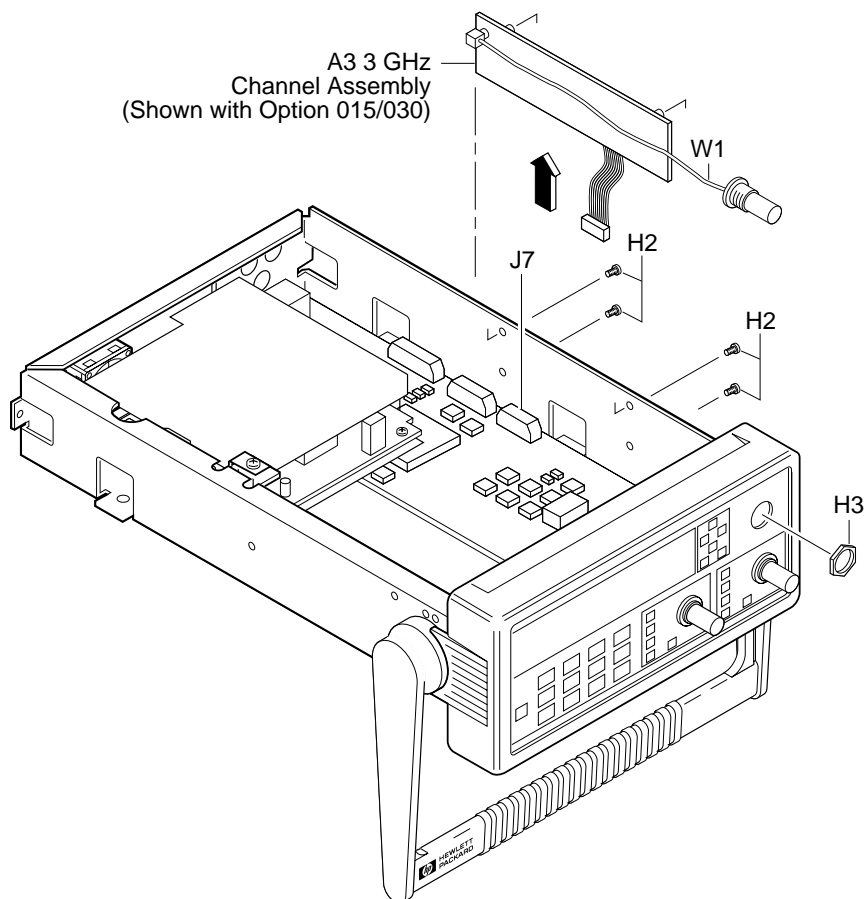

Figure 3-8. Optional Channel Input Assembly Removal
3 Pull W1, which is the optional channel assembly cable, out of the Channel 3 (or 2) opening in the front panel assembly as shown in Figure 3-8. For the Option 050 or 124, the connector is part of the Option assembly.
- 4** Disconnect flat-ribbon cable of the optional channel from connector J7 of A1 Motherboard Assembly as shown in Figure 3-8.
- 5** Remove the four (two or three for Option 050 or 124) screws (H2) attaching the optional channel to the chassis as shown in Figure 3-8.